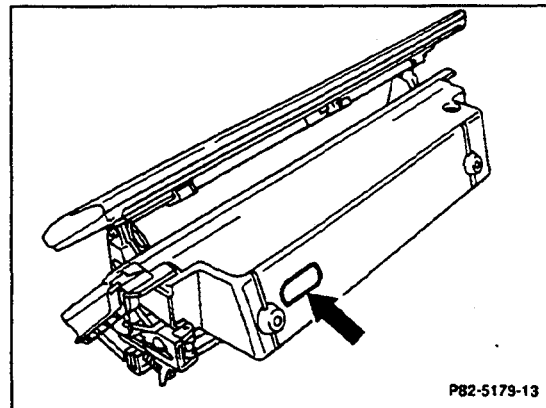

Figure 3
11. Carefully cut out the recessed opening on the back of the eye glass compartment (Arrow, Figure 3). Use caution when cutting so as not to damage the compartment liner. Cut liner inside compartment with utility knife. File down any sharp plastic edges.